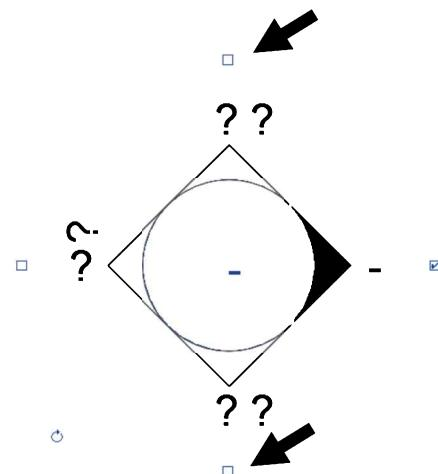

FIGURE 12-2.7 Elevation tag selected
13. Click the *North* and *South* checkboxes as shown in Figure 12-2.7.